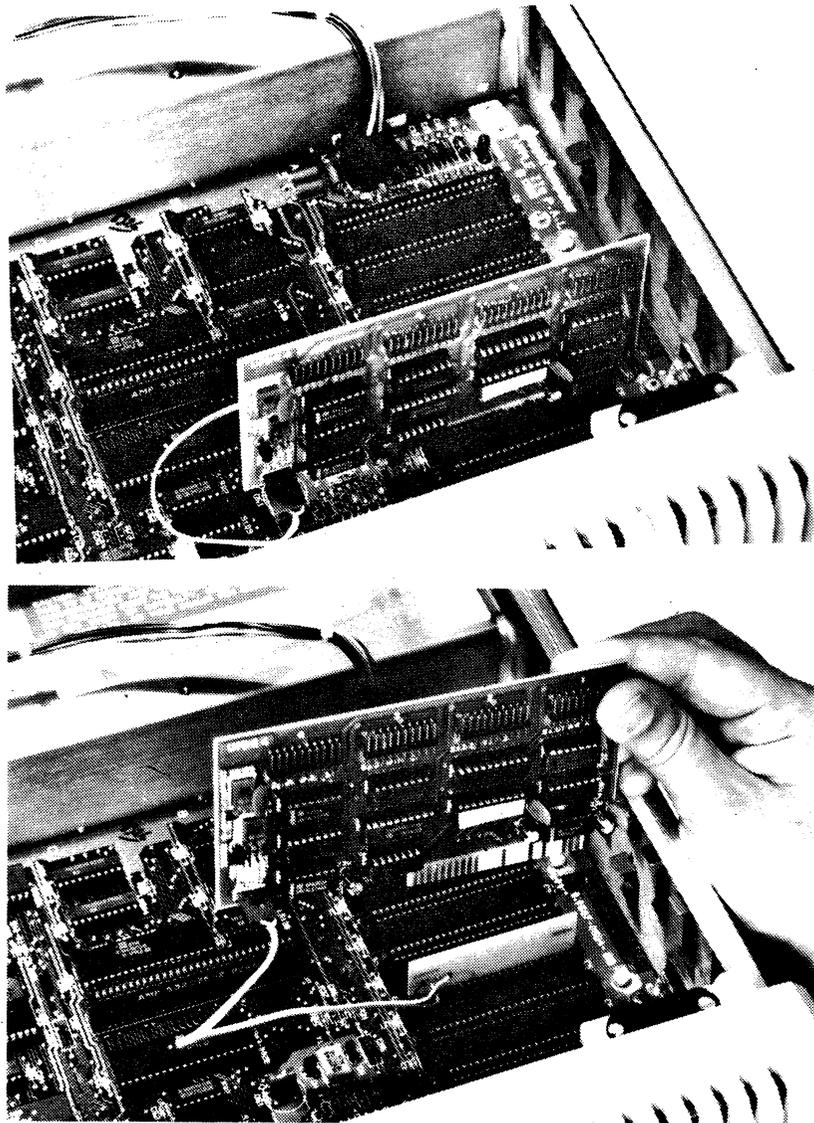

Fig 2
- 5) Plug the main board into its chosen slot and then the auxillary board as indicated in Figure 2. The end of the auxillary board marked "FRONT" should be nearest the front (ie keyboard end) of the computer.